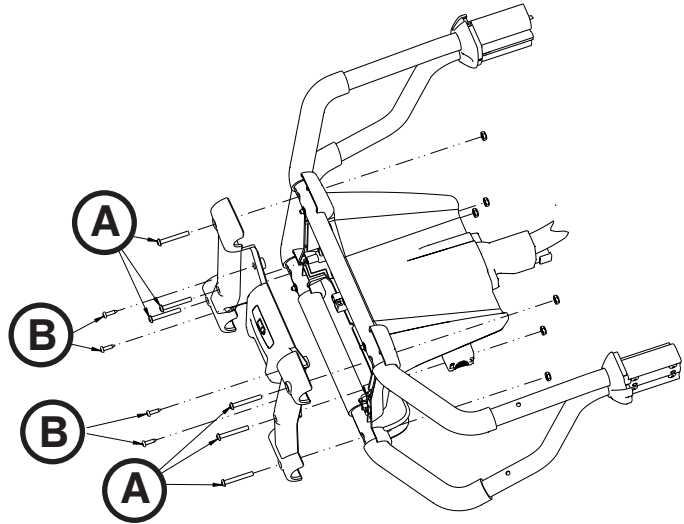

Figure 101
3. Using a T25 Torx driver, remove the six outer button head cap screws (A) from the face plate (Figure 101). Save all screws for reinstallation.
4. Using a T20 Torx driver, remove the four inner delta screws (B) from the face plate to remove the face plate (Figure 101). Save all screws and the face plate for reinstallation.